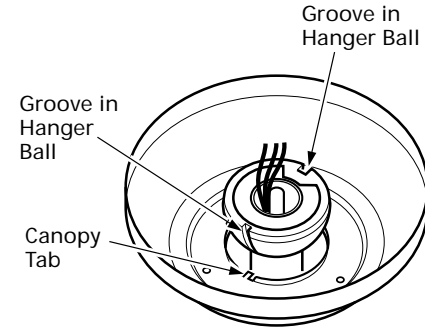

Figure 8b - Canopy Tabs and Grooves in Hanger Ball
3. **For Standard and Angle Mounting Only:** In addition to sub-steps 1 and 2, lift the fan housing towards the ceiling and rotate the fan until each canopy tab engages a groove in the hanger ball as shown in Figure 8b.